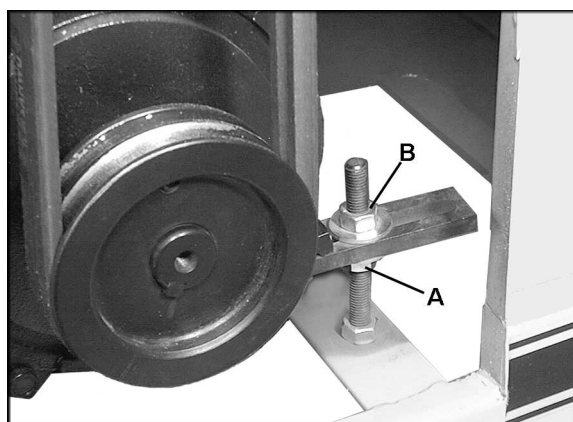

Figure 11
3. If the belts need tightening, loosen the lower hex nut (A, Figure 11) on the motor base with a 19mm wrench.
4. Turn the top hex nut (B, Figure 11) clockwise until proper tension is achieved.
5. Retighten lower hex nut (A, Figure 11).